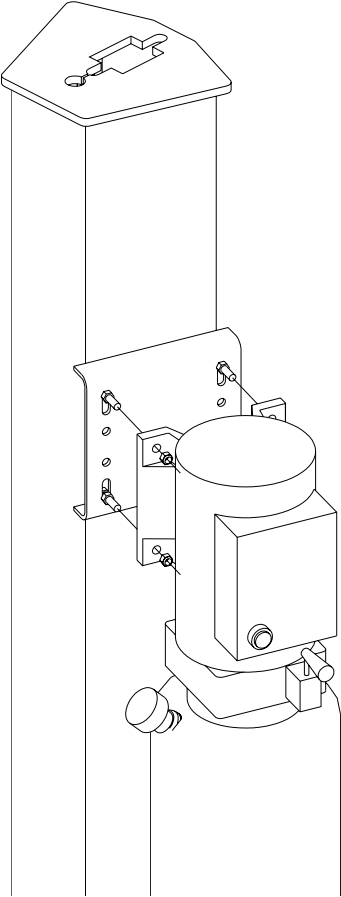

Figure 10
13. Mount the power unit onto the four bolts with 5/16 Flange Locknuts. See Figure 10.